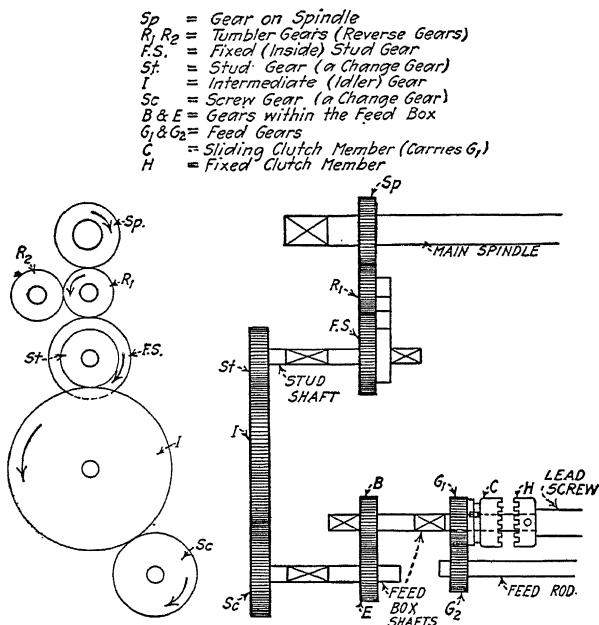

FIG. 27.—Gearing from main spindle of lathe to feed rod and lead screw.
**38. The Tumbler-gear Train and the Change-gear Train.**—Fig. 27 illustrates the gearing from the spindle to the feed rod. The gear *Sp* is keyed to the spindle and transmits motion through the tumbler gear  $R_1$  to the inside stud gear or fixed stud gear *F.S.* which is keyed to the stud shaft. (The use of the gear  $R_2$  will be explained presently.) This train of gears is called the tumbler-gear train or sometimes the reverse-gear train and is usually within the headstock casting.